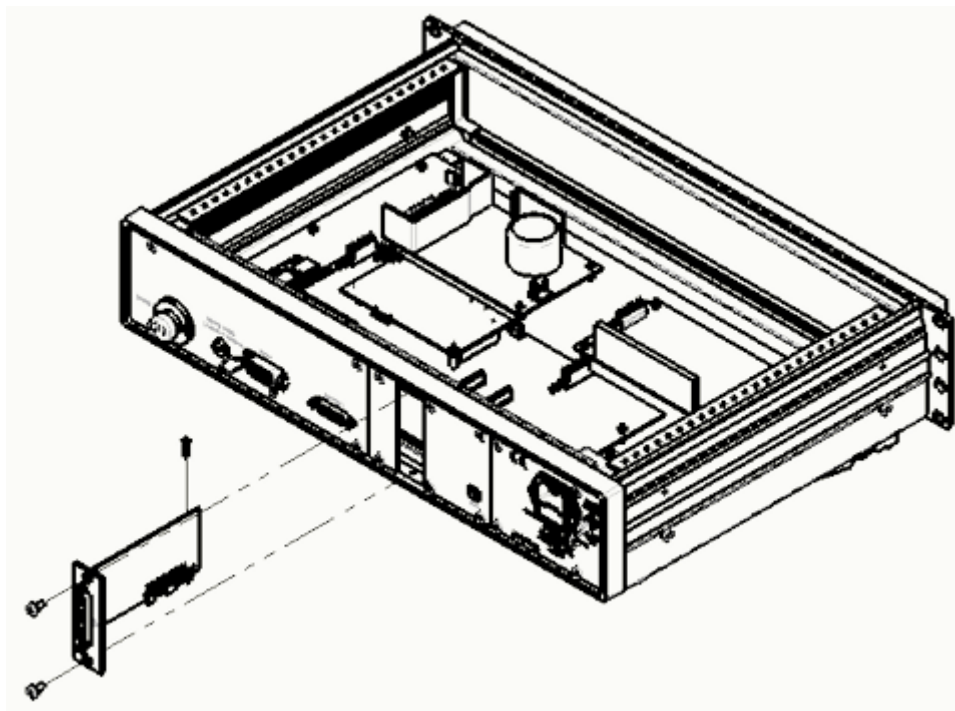

Figure 8-2 IO Card Installation
3. Plug I/O card 1 into the female header of main board as shown in *Figure 8-2 I/O Card Installation*. Ensure the component side of the IO card is on the left.